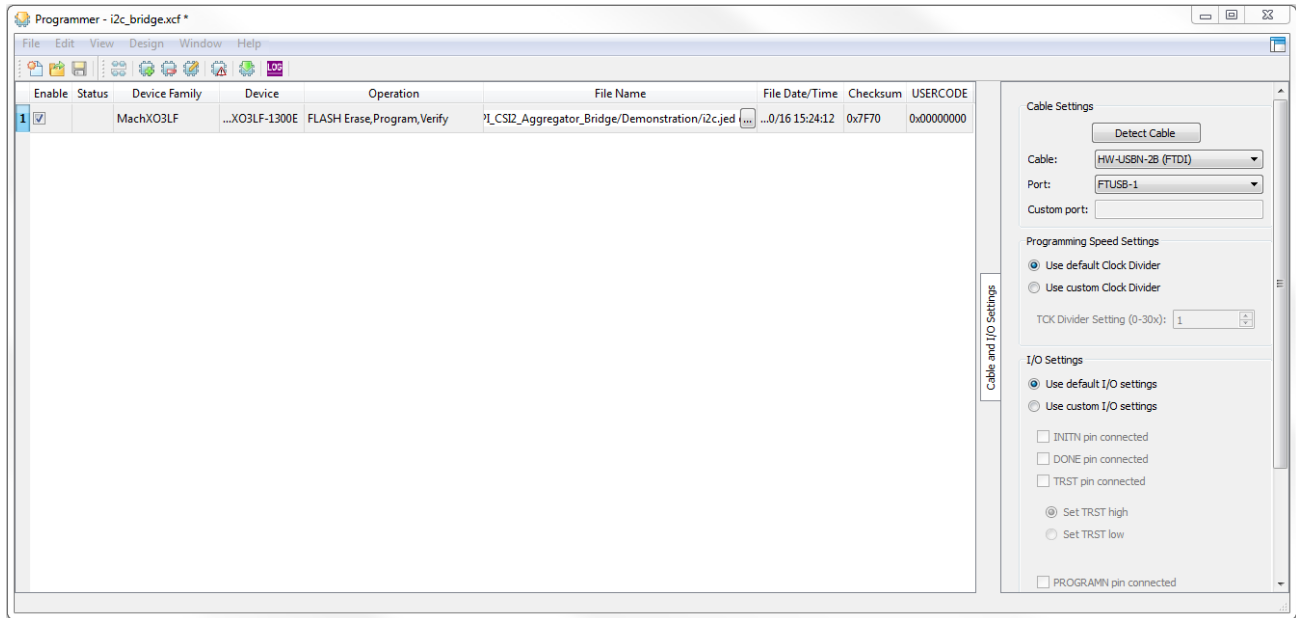

Figure 4.11. MachXO3LF Programming
12. Provide the **MachXO3LF I2C.jed** file location and program the device as shown in Figure 4.11. When programming is completed, the message *INFO - Operation: successful* appears in the output window.